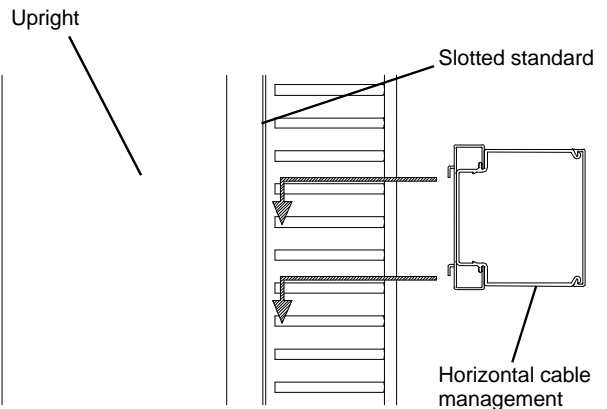

Figure 1
1. Install the **Horizontal Cable Management** component(s) in the desired location on the back of the frame by inserting the hooks at each end of the component into the slots in the Slotted Standards. See **Figure 1**.